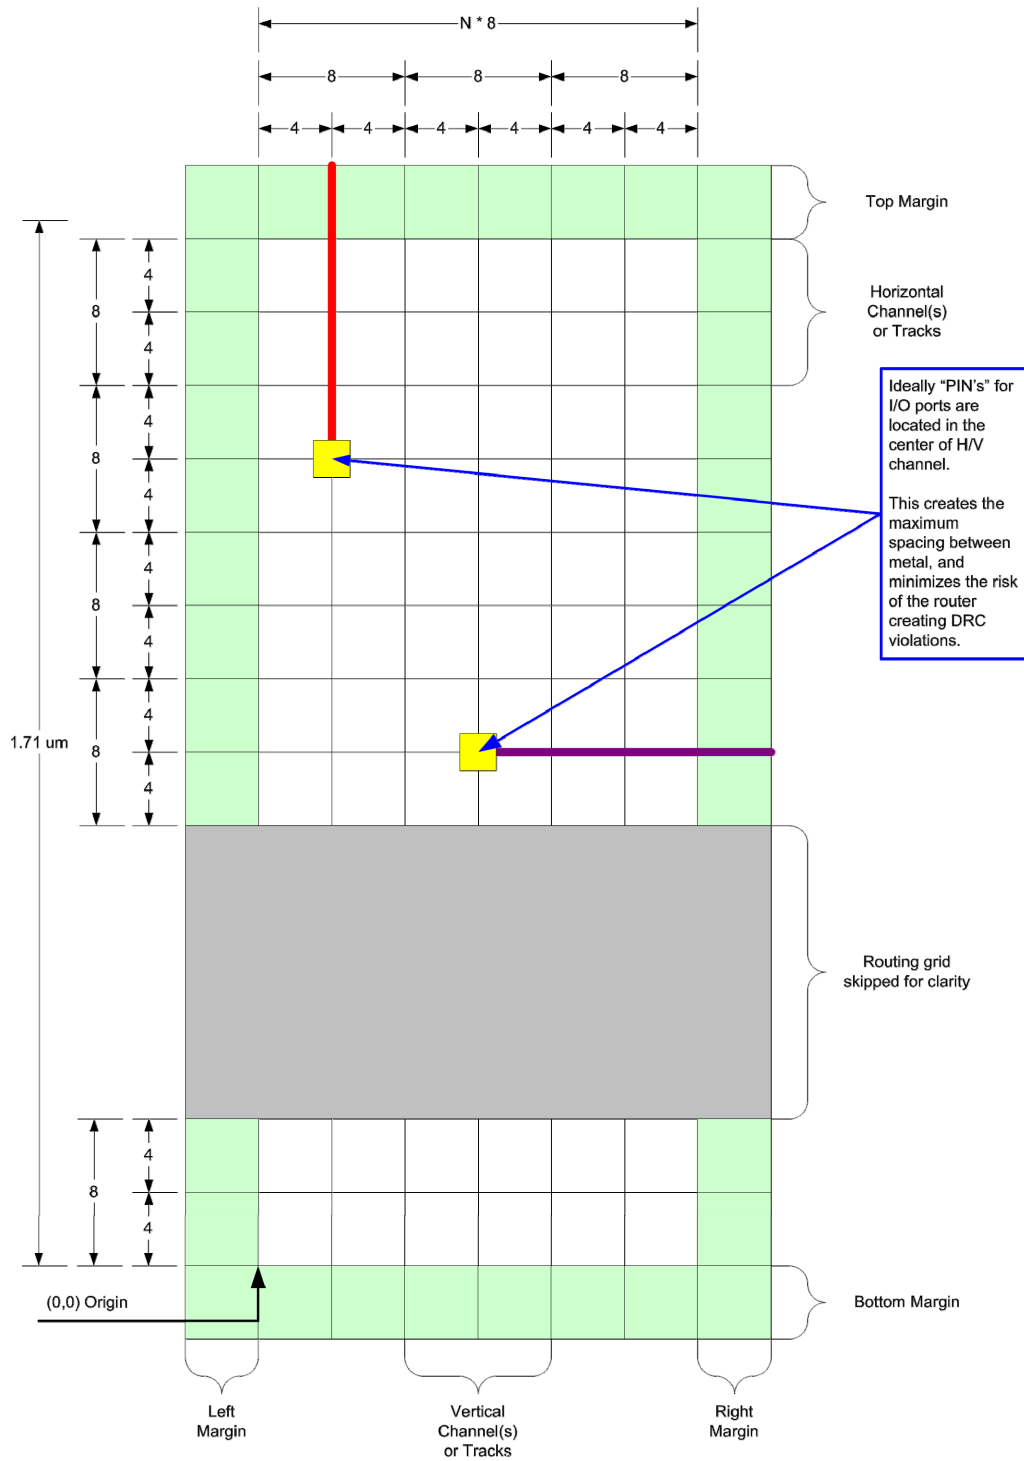

Figure 6 Routing Grid Layout
- Per Figure 6, to help guide the routing tools and minimize DRC violations, all I/O ports should fall within the PR Boundary and in the center of horizontal (x-direction) and vertical (y-direction) routing tracks or channels with a pitch of 8λ .
- As shown in Figure 6, routing is done in the channels between cell rows.